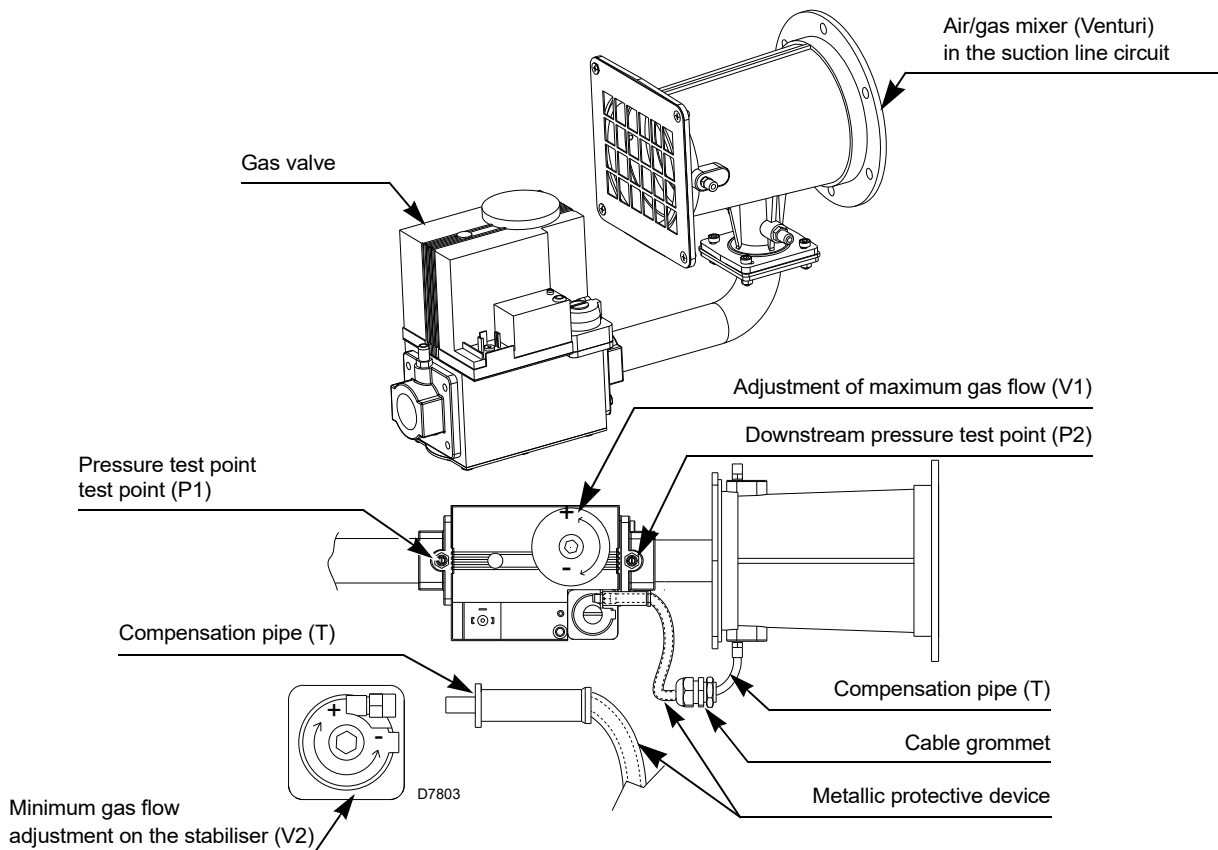

Fig. 19
To alter the maximum output of gas use screw V1 (Fig. 19 on page 24):
To alter the minimum output of gas act on the screw V2 on the gas valve (Fig. 19 on page 24).
- bleed the air from the gas pipes using the screw on the socket (Fig. 19 on page 24).